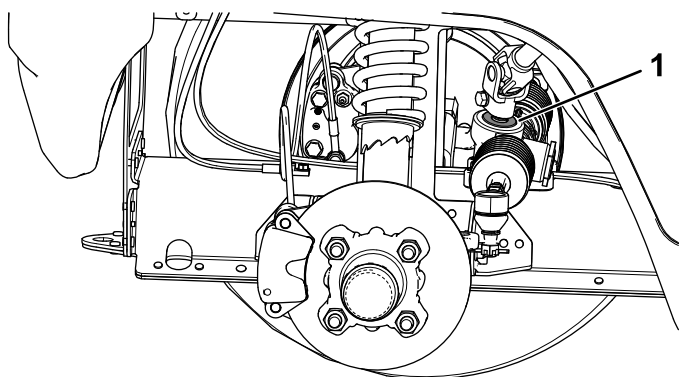

Figure 46
- Important:** Inspect the condition and security of the pinion-shaft seal (Figure 46).